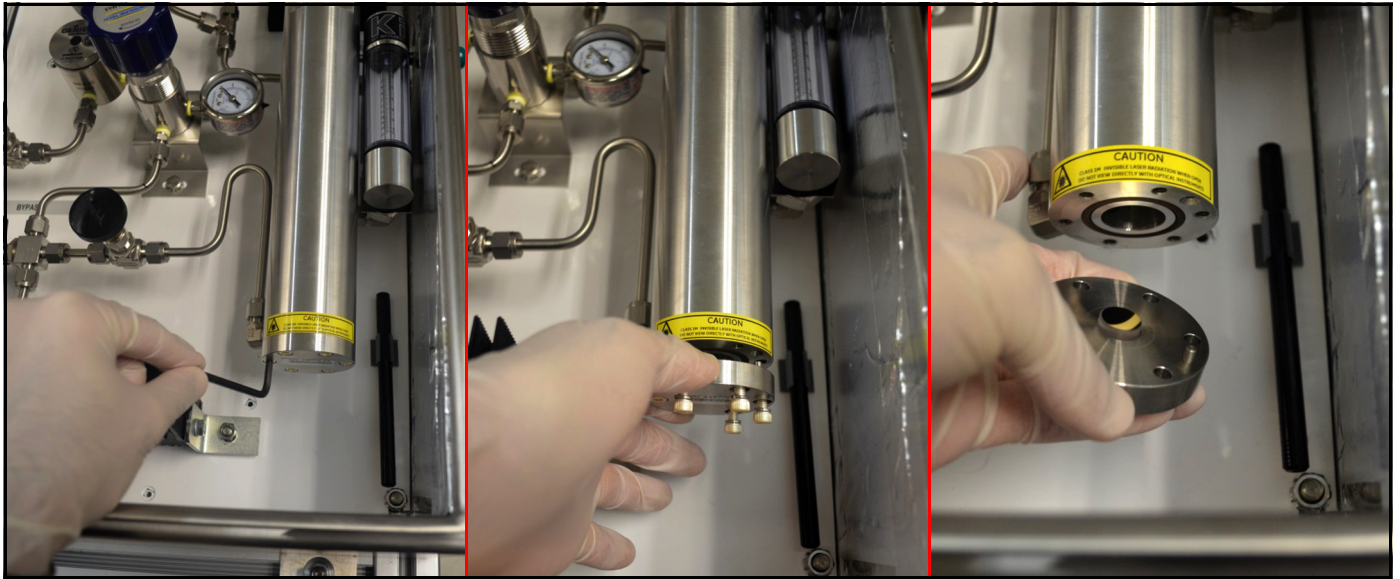
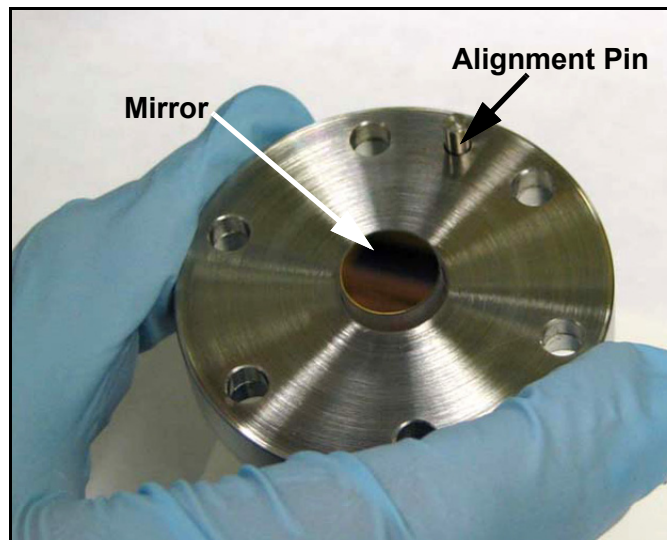

Figure 84: Removing Mirror End Cap Assembly from the Absorption Cell
Figure 85: Handling the Mirror Assembly
1. Remove the 6 hex bolts securing the mirror (see *Figure 84* below) using a 5/32 inch Allen wrench. Hold the stainless steel base of the mirror with one hand while removing the last retaining bolts. The mirror is removed by pulling it straight down. There is one alignment pin (see *Figure 85* below) to facilitate proper removal.